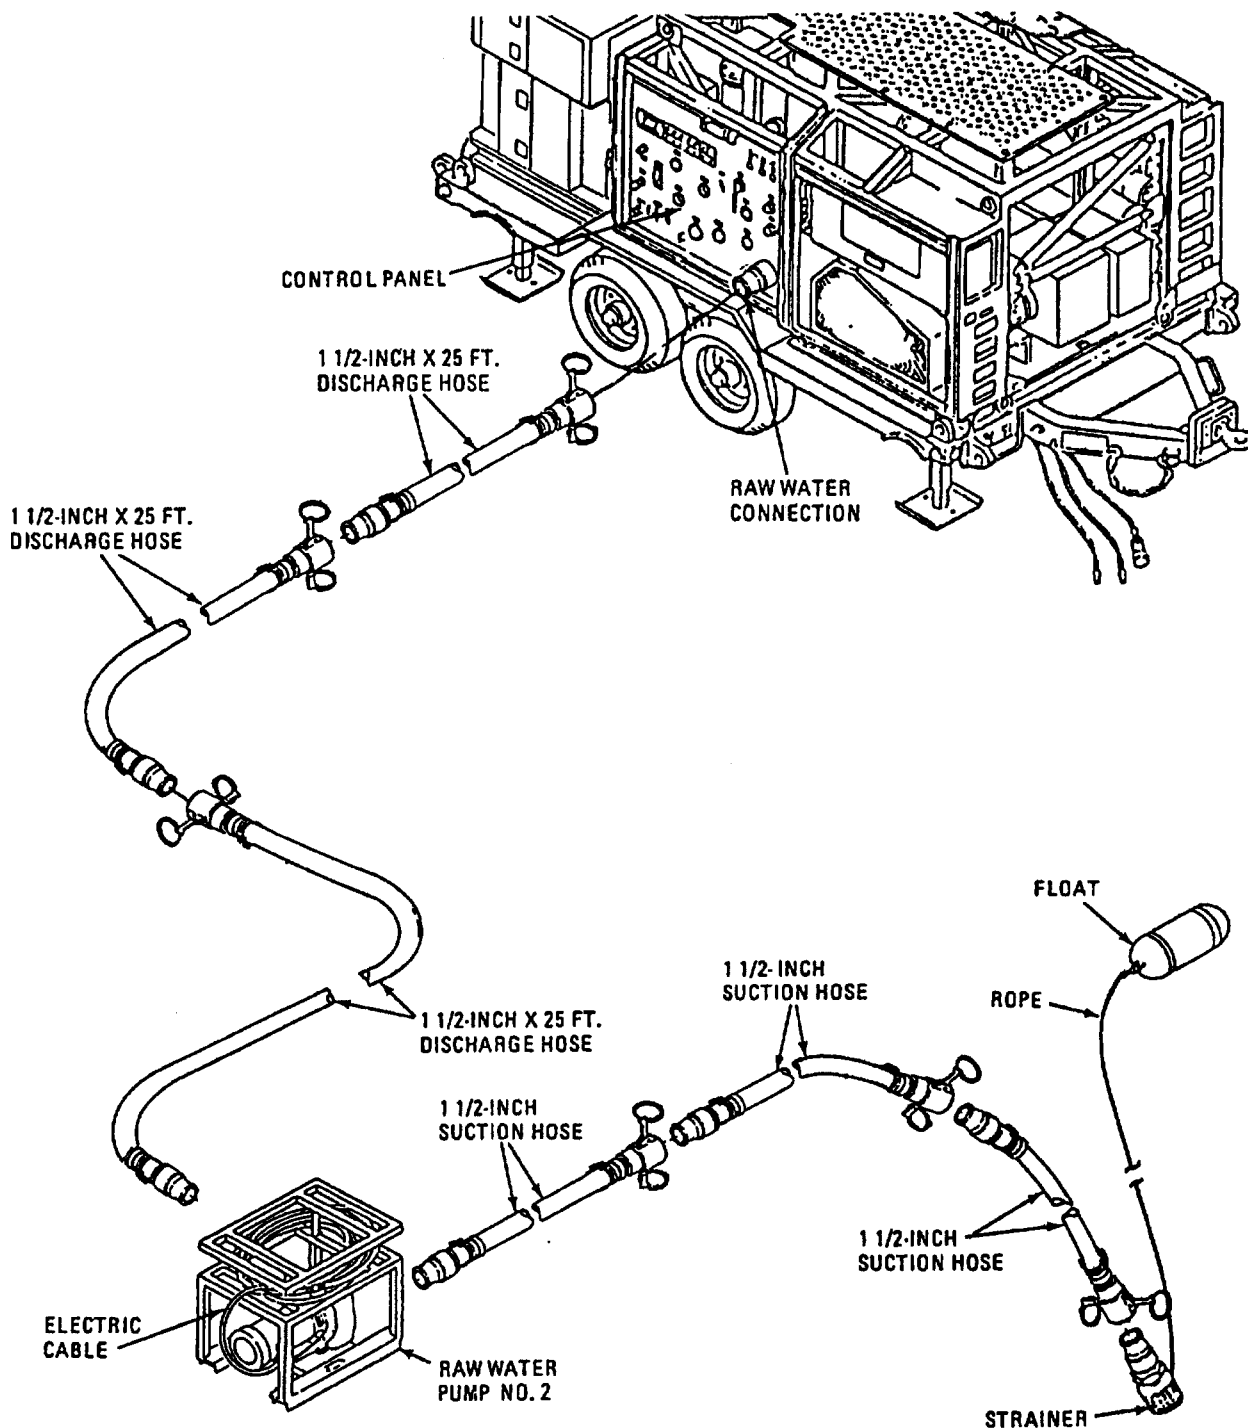

Figure 2-78. Raw Water System Setup for Operation in Nuclear, Biological or Chemical Contaminated Areas
- d. Setup Raw Water System. Refer to figure 2-78. Working from the ROWPU control panel to the water source, connect components of the raw water system as follows: